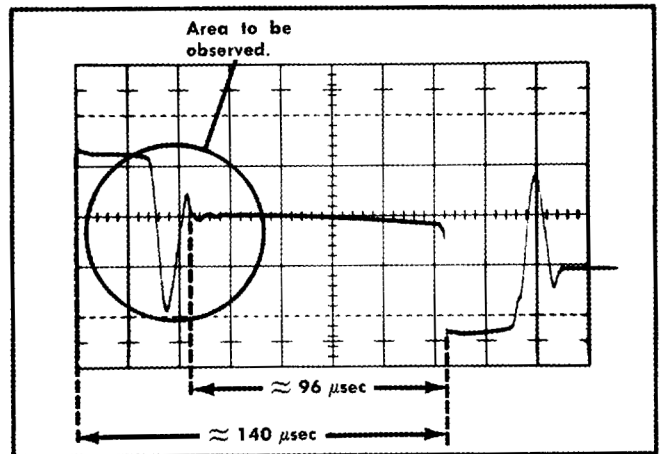

Fig. 6-5. Waveform obtained when OSC FREQ control is correctly adjusted. Oscilloscope controls for waveform were: Time/CM 20- μ Sec, Volts/CM 20.
- e. Adjust OSC FREQ control to obtain a waveform similar to the waveform shown in Fig. 6-5.